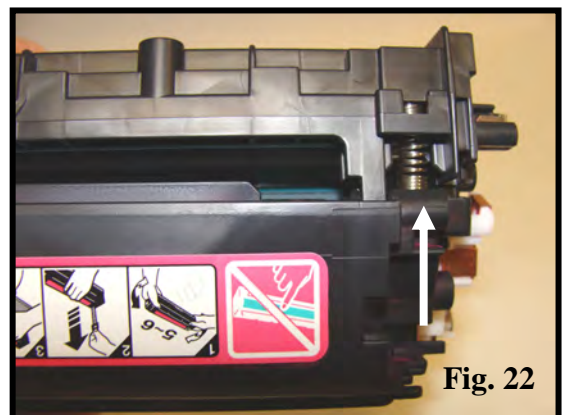

Fig. 22
22. Place the two cartridge halves together and be sure to align the tension spring with the toner section (Fig. 22). Install the end cap and secure with two screws.